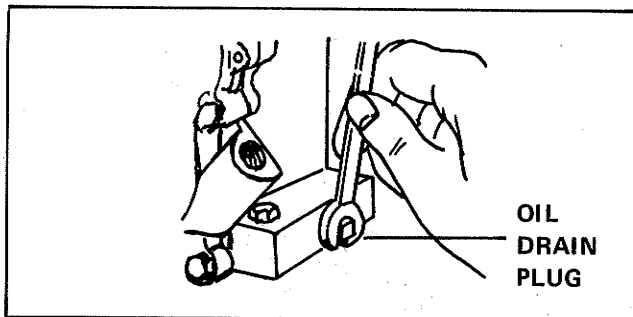

Figure 17.
- b. Remove oil drain plug (See Figure 17) and allow oil to completely drain from engine.